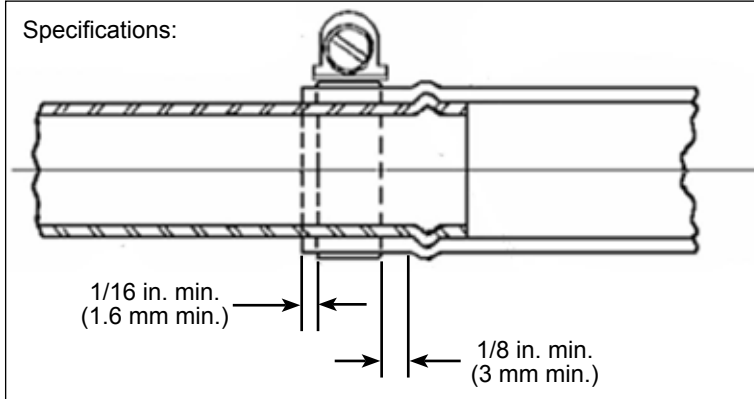

Figure 2 - Steps for the Installation of the Clamps
- 1.1. Ensure the proper positioning of the clamp on the hoses according to the specifications in Figure 1. The clamp must be over the hose, perpendicular to the hose/piping assembly, at a minimum of 1/16 inch (1.6 mm) from the end of the hose, and before the fitting/piping bead. See Figure 2 for the installation steps.